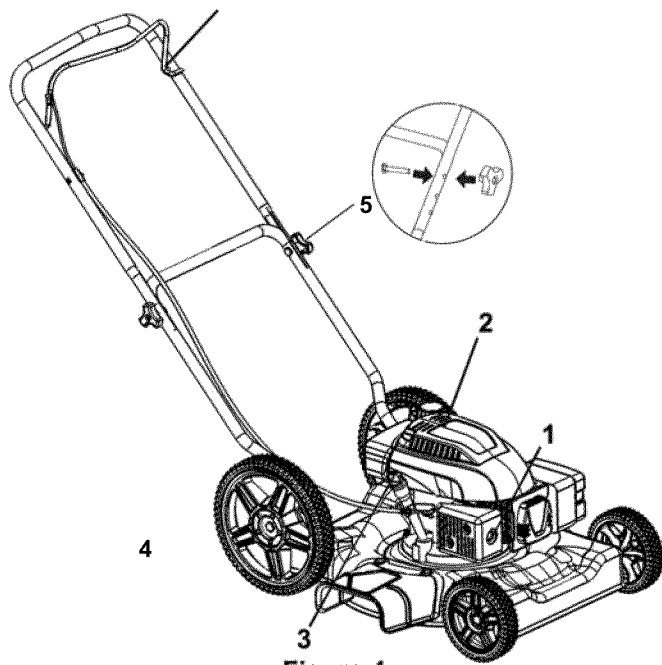

Figure 4
2. Slowly pour oil into the oil tube until the oil level reaches the Full line on the dipstick (Figure 4). Do not overfill (Max.20 oz. (0.59 l), type: SAE 30 detergent oil with an API service of SF,SG, SH, SJ, SL, or higher.)